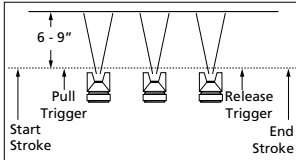

Figure 10
- Trigger the gun properly. Start the gun moving at the beginning of the stroke **BEFORE SQUEEZING THE TRIGGER** and release the trigger **BEFORE STOPPING GUN MOVEMENT** at the end of the stroke. This procedure will feather (blend) each stroke with the next without showing overlap or unevenness (See Figure 10).